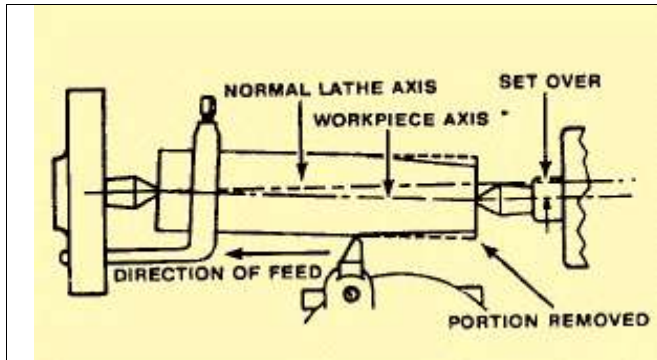

Figure 7-64. Taper turning with tailstock set over.
**Tailstock Offset:** The centerline of the workpiece is no longer parallel with the ways; however, the tool bit continues its parallel movement with the ways, resulting in a tapered workpiece. The tail stock may be offset either toward or away from the operator. When the offset is toward the operator, the small end of the workpiece will be at the tailstock with the diameter increasing toward the headstock end. (Figure 7-64).